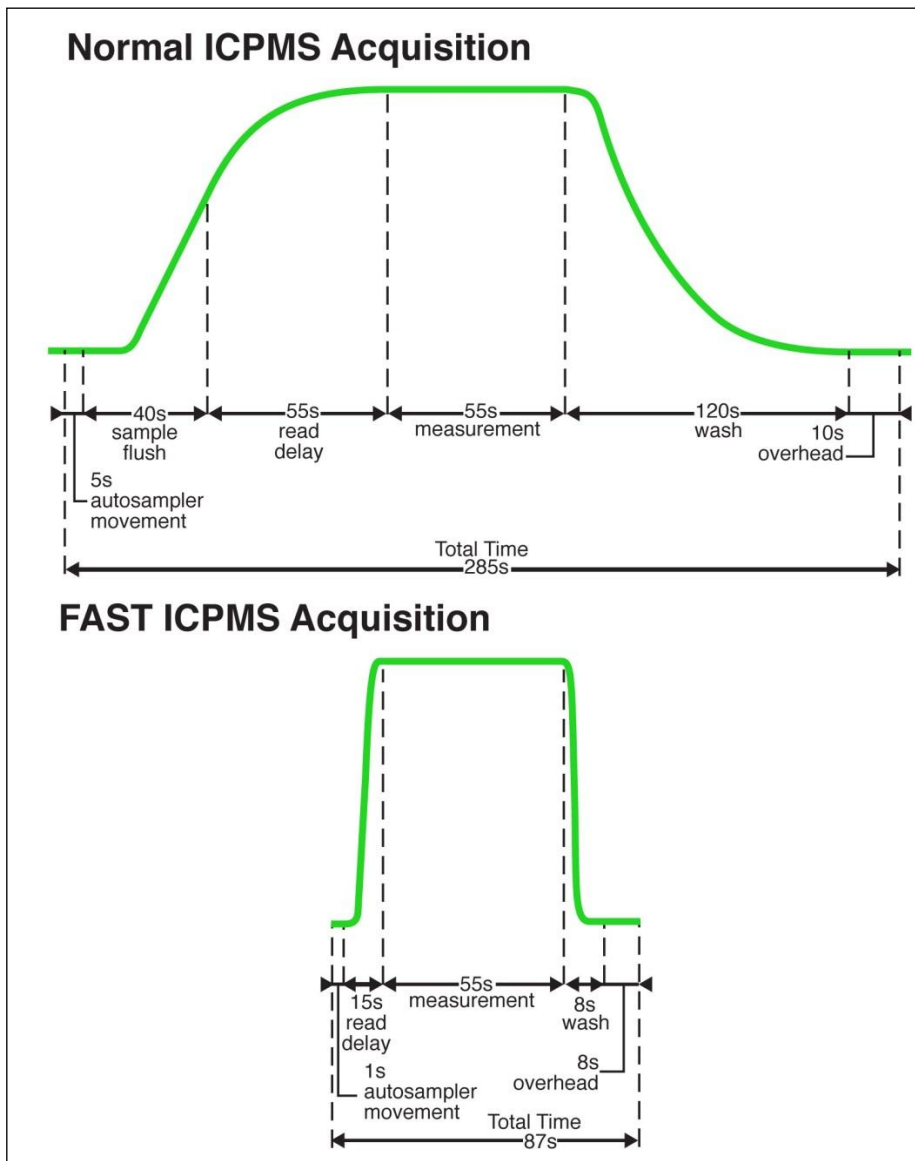

Figure 53: Example of reduced analysis time.
- 1) Reduced sample analysis time. Refer to Figure 53: Example of reduced analysis time. Shown is an example of how the analysis time is reduced.